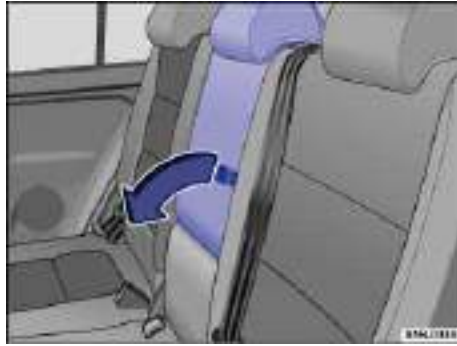

Fig. 101 In the rear backrest: Opening the luggage compartment pass-through.
- Pull the loop in the direction of the arrow ⇒ fig. 101 and fold down center armrest.